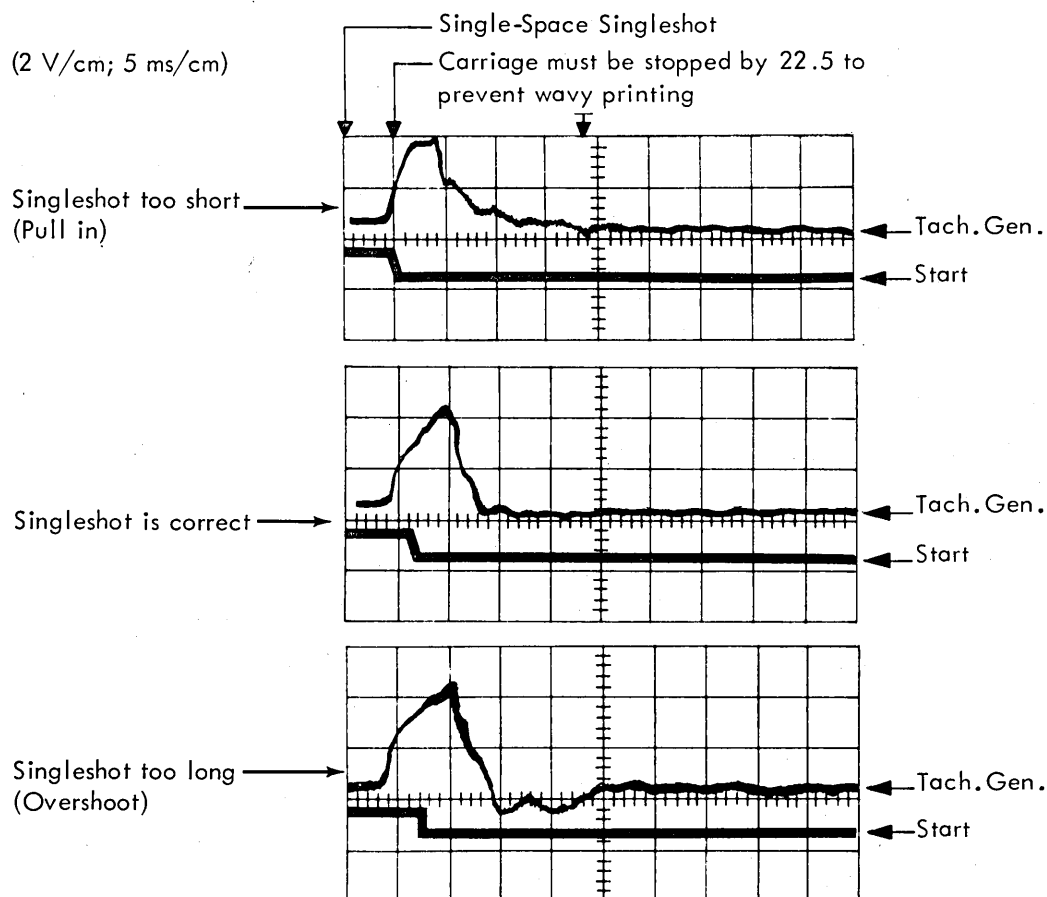

Figure 1-55. Single Space: 6-Lines per Inch
- Adjust in single space after print operation (Figure 1-55).